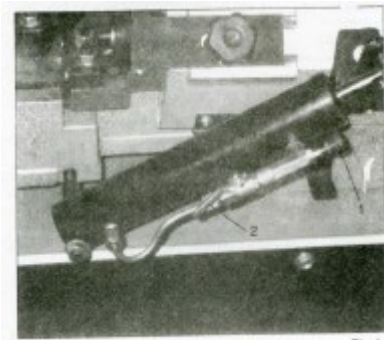

Fig. 4
To increase the speed turn the knob anti-clockwise (1 – fig. 4). To decrease speed turn the knob clockwise.
To switch off the hydraulics, set the handle in the position shown in fig. 4. To switch on the hydraulics, lift the handle (2).